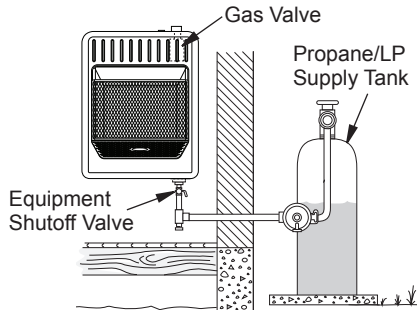

Figure 15 - Checking Gas Joints for Propane/LP Gas
3. Check all joints from gas supply (see Figure 15 or 16) to equipment shutoff valve. Apply a noncorrosive leak detection fluid to all joints. Bubbles forming show a leak.
4. Check all joints from equipment shutoff valve to control valve (see Figure 15 or 16, page 16). Apply a noncorrosive leak detection fluid to all joints. Bubbles forming show a leak.